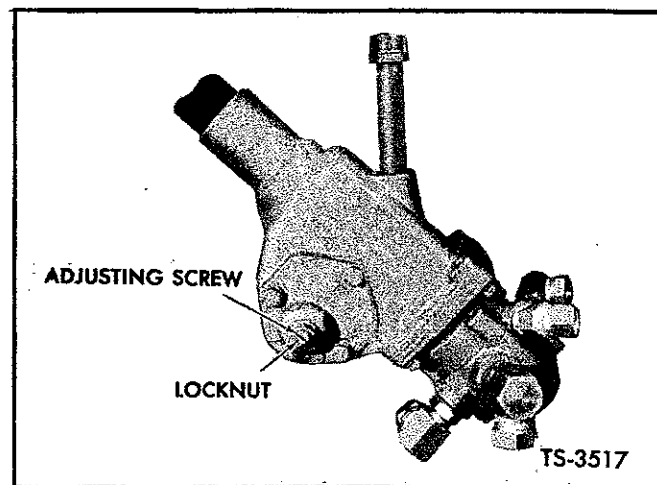

Fig. 42. Adjust Steering Gear
4. Loosen locknut and turn adjusting screw clockwise to increase pull at wheel, counter-clockwise to decrease the pull. See Figure 42. Reset locknut and recheck pull, as it must be within the specified limits after the locknut is tightened.